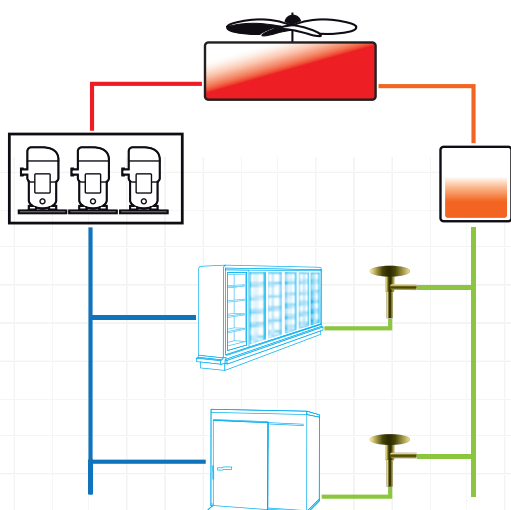

Fig. 2
- standard system with thermostatic expansion valves (Fig.2);